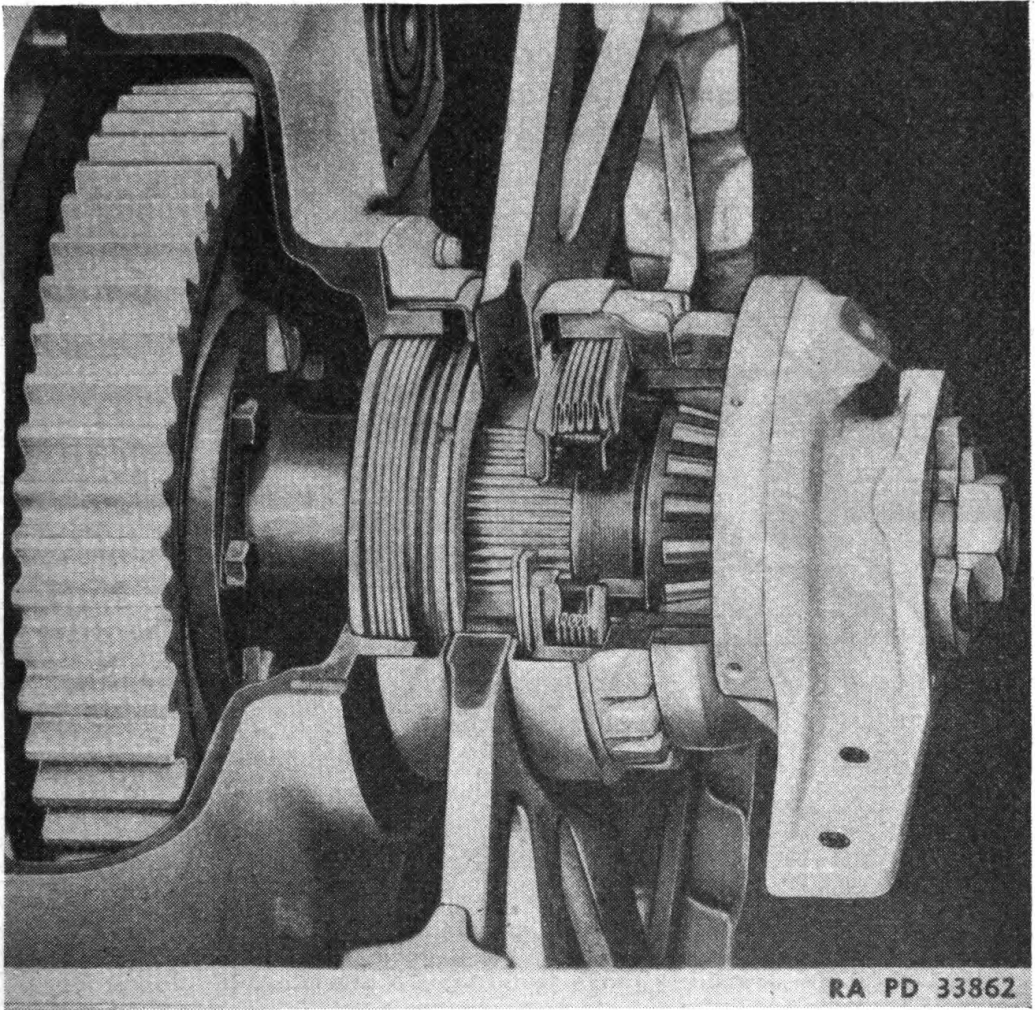

FIGURE 145.—Final drive taper roller bearing adjustment.
b. If the adjustment is loose, remove lock underneath spanner adjusting nut and draw nut (fig. 145) tight using a CAT1B4262 wrench with a 4-foot length of pipe. Turn the nut counterclockwise to tighten adjustment. Then loosen adjusting nut (by turning clockwise) until the lock can be installed in the first available notch.